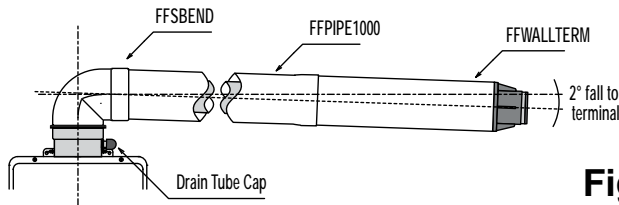

Fig. 2
HORIZONTAL EXTENDED (FIG. 2)
7. To prevent rain water from entering the flue terminal ensure the required 2° fall to outside is achieved (Fig.2 page 2).